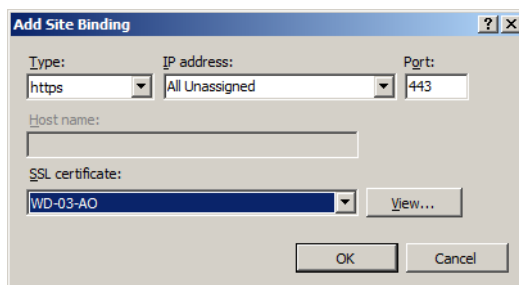

Figure 43. Changing the values in Bindings
4. Click **Add** and select **Type** as **https** and enter the **Port** as **443**. See Figure 43.